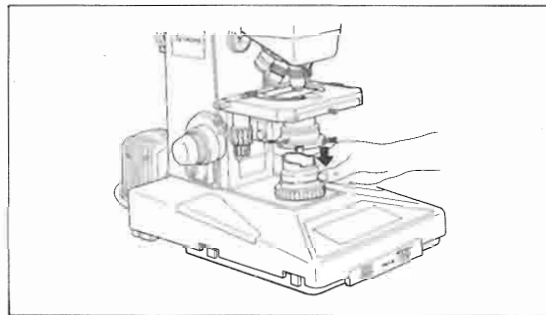

Fig. 42
- (1) Switch ON the microscope base sub-switch. Set the lamp voltage to 6.0 with the brightness control switch.
- (2) Place a slide on the stage. Move the 10× objective into the working position and focus on the specimen with the aperture and field diaphragms fully opened.
- (3) Roughly center the condenser with 10× objective, as described on p. 17. (Adjustment need not be precise.)
- (4) Place the lamp centering tool on the field lens. (Fig. 42)